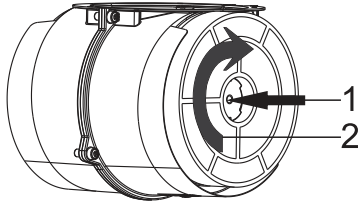

Fig. 6: CARBON FILTER
1. Place the carbon filter in its housing. Fig. 6
2. Rotating the carbon filter clockwise, ensure that it is completely fit. Fig. 6